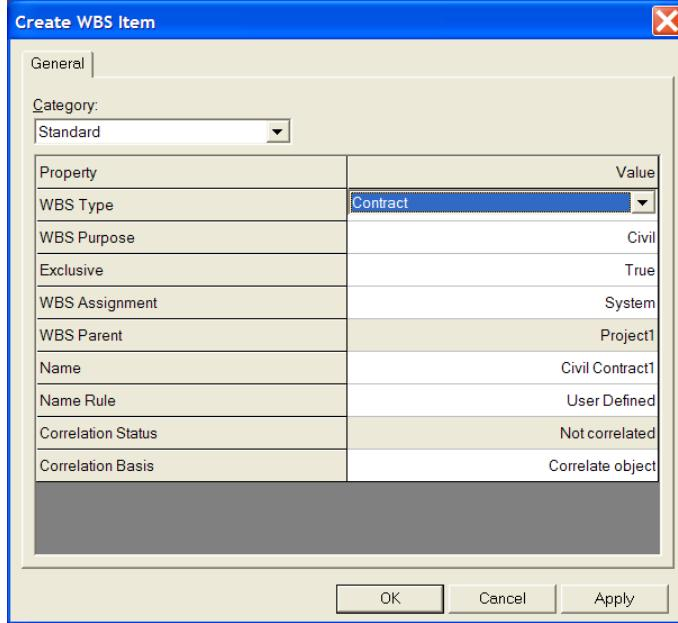

Figure 7: Create WBS Item Dialog Box
7. Create a new WBS Item in Project1 by right-clicking Project1 and selecting the **Create WBS Item** command. Select the property options shown in Figure 7.